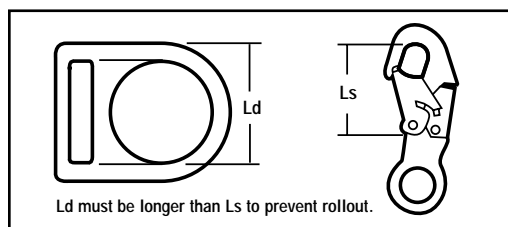

Figure 8: Never use single locking snaphooks. Use double locking snaphooks only.
1.5 Snaphook Attachment: When provided, SM/RTC single-action double locking snaphooks are designed for attachment to D-rings with an inside diameter of 2-1/4 inches that can support 5000 pounds in the direction of the anticipated pull (See figure 8, on page 7). Do not attach more than one fall protection device to one D-ring due to the possibility of accidental disengagement (roll-out).
with the snaphook. Never use single locking snaphooks (See figure 8).